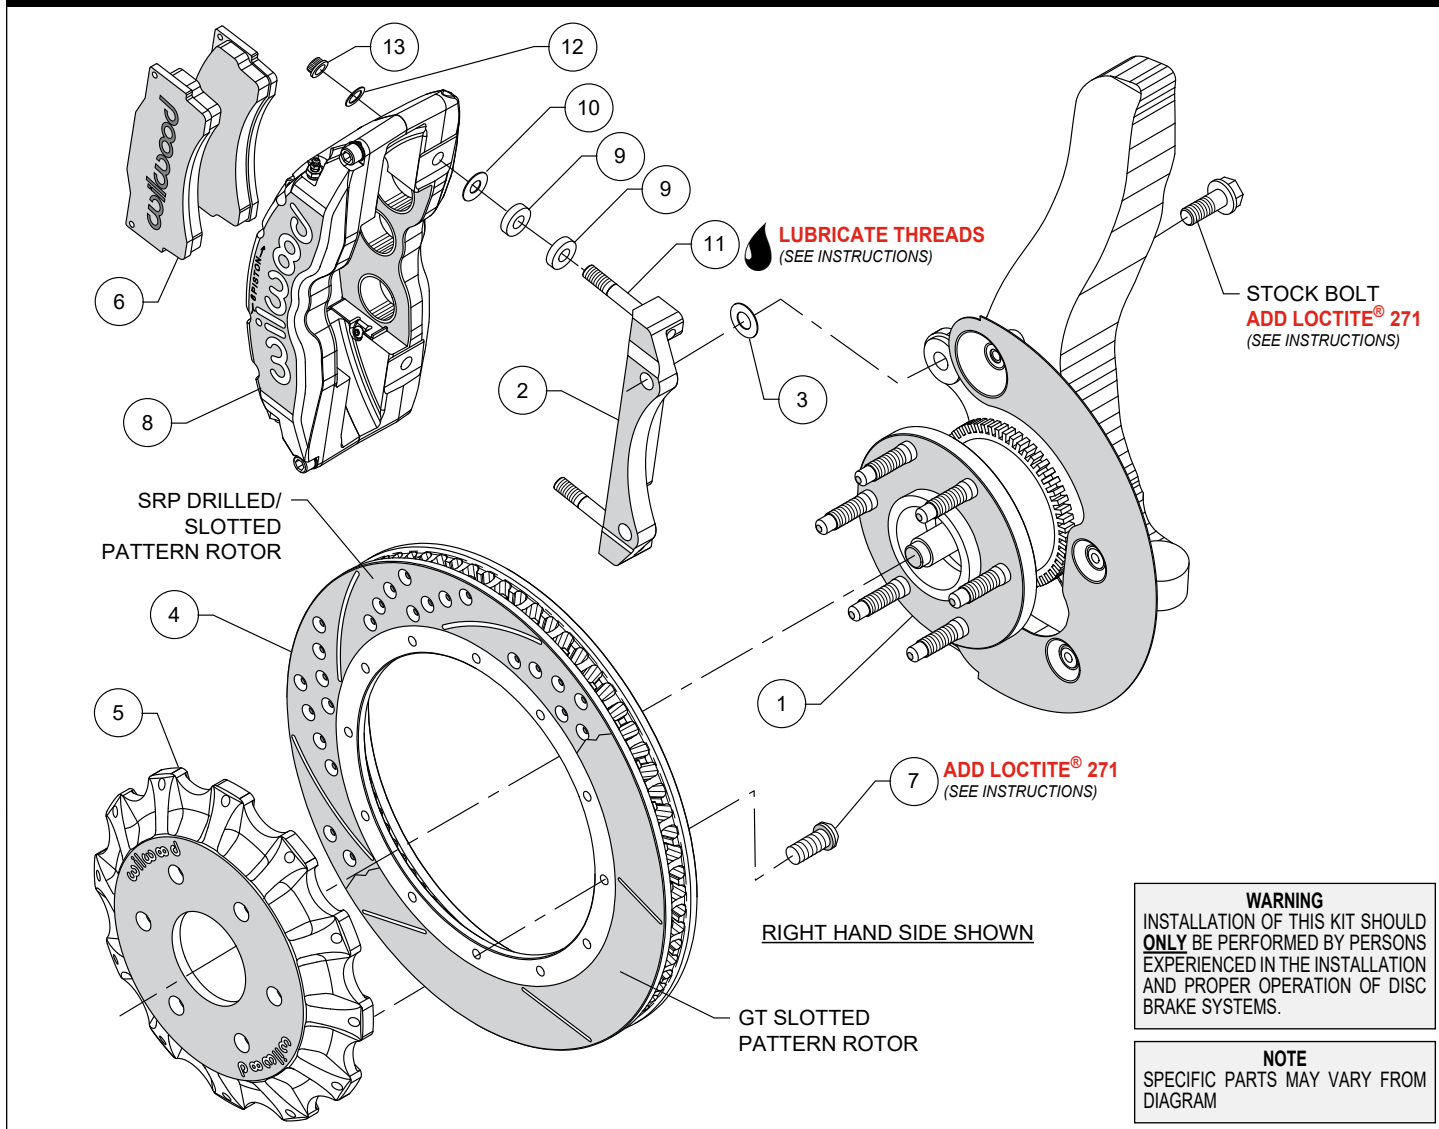

Figure 1. Typical Installation Configuration
**NOTE:** Numbers in parenthesis refer to the parts list and Figure 1 on the preceding pages.
- Slide the new hub assembly (1) into place and secure with new OEM hub nut (OEM manufacturer states hub nuts are single use and does not recommend reuse). Torque to manufacturer's specification.
- The caliper mounting bracket assembly (2) should be installed first with clean, dry threads on the mounting bolts. Install the bracket from the outboard side of the spindle by sliding the stock bolt through from the backside. Place shim washer (3) between the bracket (2) and the spindle (see Figure 1). The bracket must tighten squarely against the side of the spindle body. Inspect for interference from casting irregularities, machining ridges, burrs, etc. Use one thin shim (3) between the bracket (2) and spindle during initial trial fitting.
- Orient the rotor (4) and the hat (5) as shown in Figure 1. Attach rotor to hat using bolts (7). Apply red *Loctite*® 271 to the bolt threads and torque to 25 ft-lb using a criss-cross pattern.
- **NOTE:** Please reference the caution statement at the beginning of the assembly instructions. Install two spacers (9) and one shim washer (10) over each pre-installed stud (11) on the radial mount bracket (2). Slide the caliper (8) in place over the studs and rotors and install the washer (12) and lock nut (13) to hold the caliper in place. The caliper bleed screws should be pointing up. Snug the lock nuts (13) and check that the rotor (4) is centered in the caliper (8). Add or subtract .024" shims (3) as necessary between the caliper mounting bracket (2) and the spindle to center the caliper (8).
- Remove the two caliper center bridge pad retainer bolts, nuts, tubes, and anti-rattle clips from the caliper. Slide the brake pads (6) into place. They should install easily without interference. Check that the outside radius of the brake pad is aligned with the outside diameter radius of the rotor face. Add or subtract shims (10) between the caliper and mount bracket to gain the proper alignment. Reinstall the first center bridge pad retainer and tube while sliding the bolt thru the mounting holes on the end of the anti-rattle clip, screw on the locknut. Push the opposite end of the anti-rattle clip downward and secure the second center bridge pad retainer tube, bolt and locknut on top of the anti-rattle clip, thus holding it firmly against the brake pads. The locknut should be snug without play in the bolt or tube. Be cautious not to over tighten.